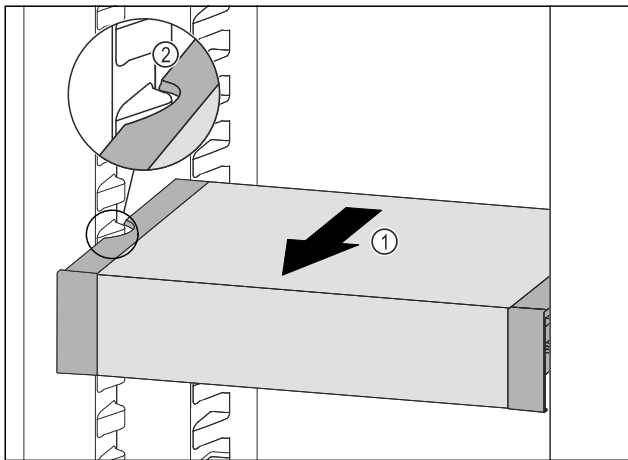

Fig. 96
- Pull VarioSafe forwards Fig. 96 (1) until the recesses in the side of the VarioSafe are at the level of the support rib in the fridge section. Fig. 96 (2)